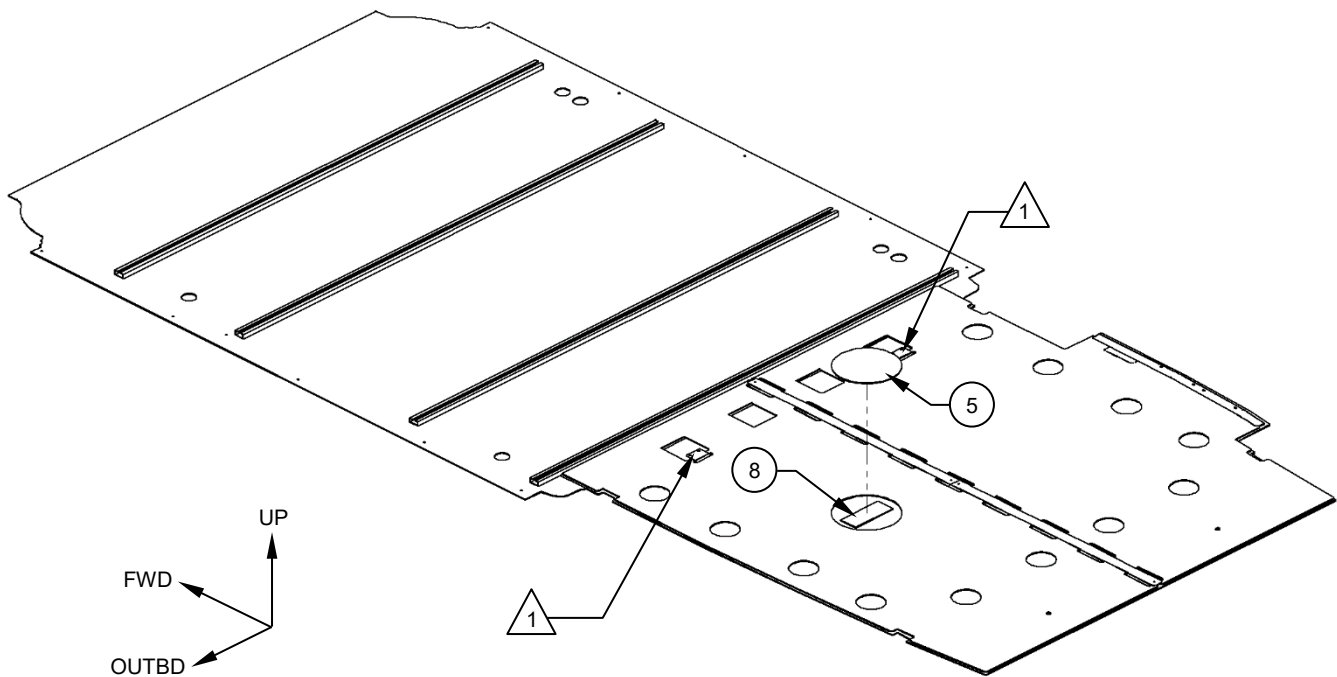

**Figure 5**
6. Install the provided fasteners (Item 10) as shown. Reference Figure 5.